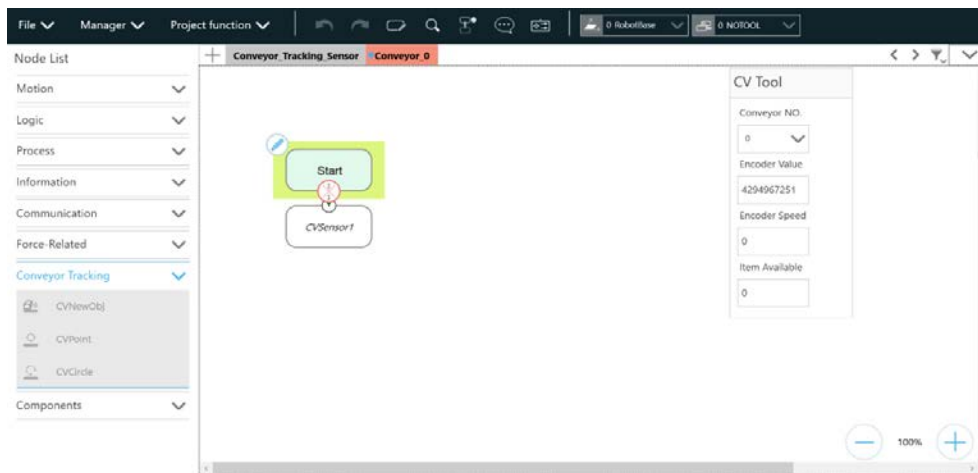

Figure 18: Start the project
- C. Another is the sub-thread, which is Conveyor_0 in **Figure 18**. This thread is configuration-only and cannot add any node.